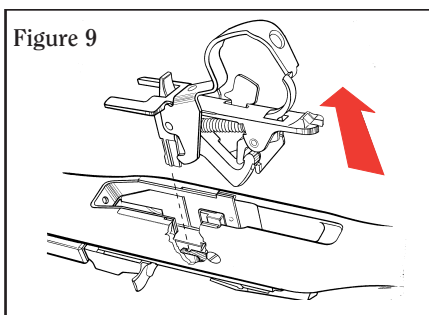

Figure 9
4. Fold rear sight down. Invert rifle and remove trigger housing assembly by carefully pulling it upward (See Fig. 9). Be careful not to damage stock when removing or replacing the trigger housing assembly.